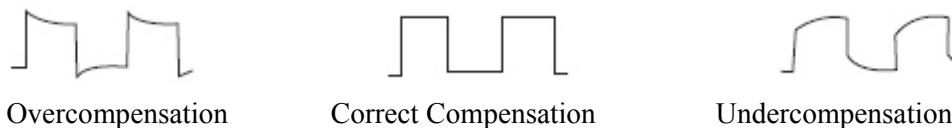

Figure 1-8 Probe compensation calibration
3. If you see an “Undercompensation” or “Overcompensation” waveform display, adjust the adjustable tab inside the adjustment hole at the tip of the probe with the adjusting rod in the probe accessory pack, until a “Correct Compensation” waveform shown in Figure 1-8 is displayed.